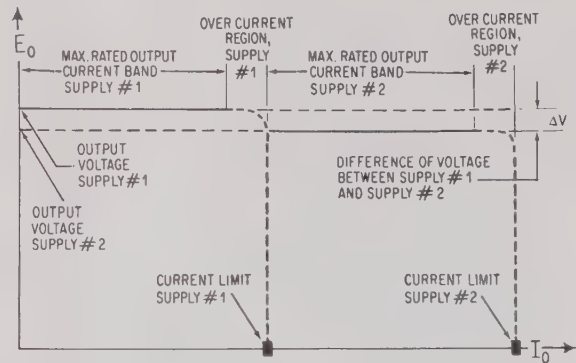

FIG. 3-12 PARALLEL OPERATION, PBX POWER SUPPLIES
3.40 Two identical PBX power supplies may be operated in parallel for increased load-current output. Each supply is set approximately to the desired output voltage with its respective Current Limiting Adjustment set to the maximum clockwise position. After paralleling the two power supplies, one of them (supply #1) will inherently be at a slighter higher output voltage than the other (supply #2). Consequently, supply #1 will deliver all the load current up to the setting of its Current Limiting Adjustment. As the load is increased beyond this limit of supply #1, supply #2 takes over and delivers the additional current. The Current Limiting Adjustment of supply #1 can now be decreased, so that approximately equal current sharing is obtained. Fig. 3-12 shows in form of a diagram, how the two supplies operate in parallel, with their respective Current Limiting Adjustments in maximum clockwise position. It will be obvious from the diagram, that the areas of load regulation are within the output current bands of the individual supplies only. Therefore, load regulation cannot be measured from zero to twice the load current for example, but only within the individual load current bands. Error-sensing as described in Par. 3-19 (from either supply), may be used if precise regulation at the load is required.